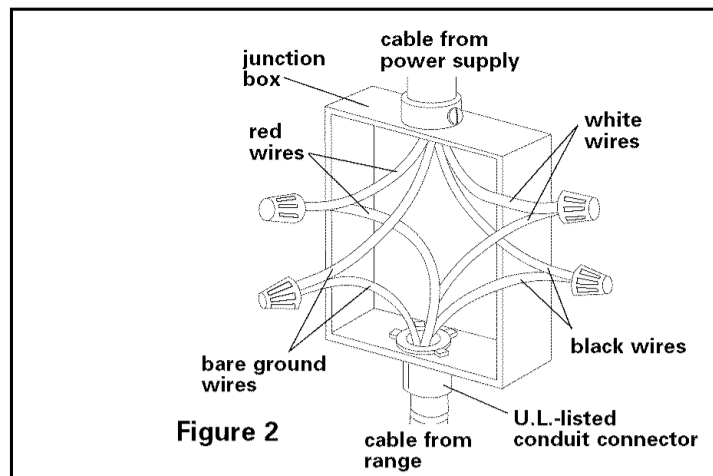

Figure 2
8. Connect white range cable wire to neutral (white) wire in junction box. See Figure 2.
9. Connect the bare ground range cable wire to a grounded wire in the junction box. See Figure 2.
9. Connect the bare ground range cable wire to the green ground wire in junction box. **Do Not connect bare ground wire to neutral (white) wire in junction box.** See Figure 2.